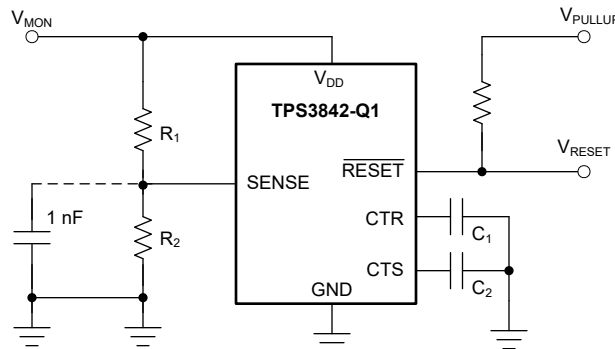

Figure 7-3. Using the TPS3842A011DRLRQ1 to Monitor a User-Defined Threshold Voltage
Figure 7-3 illustrates an example of how to adjust the voltage threshold with external resistor dividers. The resistors can be calculated depending on the desired voltage threshold and device part number. TI recommends using the 700mV threshold option when using an external resistor divider. The variant bypasses the internal resistor ladder for higher accuracy when using external resistors.
For example, consider a 12V rail, V_{MON} , being monitored for undervoltage (UV) using of the TPS3842A011DRLRQ1 variant, as shown in Figure 7-3. The monitored UV threshold, denoted as V_{MON-} , is the desired voltage where the device asserts the reset. For this example $V_{MON-} = 5.8V$. To assert an undervoltage reset the voltage at the sense pin, V_{SENSE} , needs to be equal to the input threshold negative, V_{ITN} . For this example variant $V_{SENSE} = V_{ITN} = 0.7V$. Using R_1 and R_2 the correlation between V_{MON-} and V_{SENSE} can be seen in Equation 1. Assuming $R_1 = 100k\Omega$, and R_2 can be calculated as $R_2 = 13.7k\Omega$.